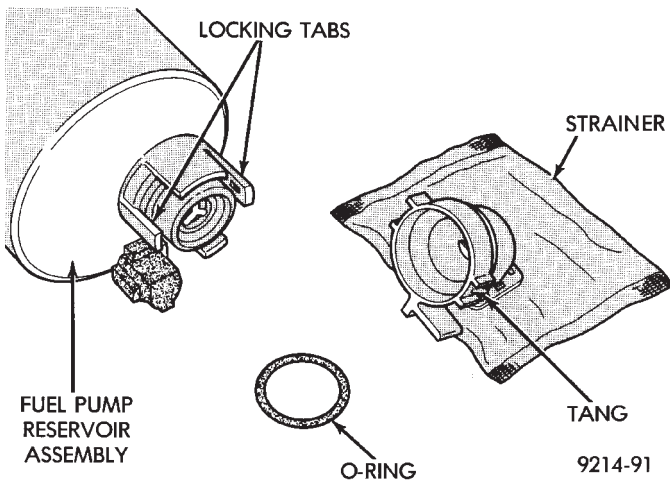

Fig. 10 Fuel Strainer Service
- (1) Bend locking tabs on fuel pump reservoir assembly to clear locking tangs on the fuel pump strainer (Fig. 10).
- (2) Pull strainer off.
- (3) Remove strainer O-ring from the fuel pump reservoir body.
- (4) Remove any contaminants by washing the inside of the fuel tank.